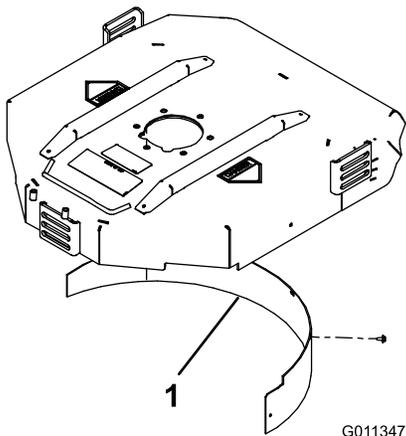

Figure 7
- Install the mulching baffle in the rear opening and secure it with 5 flange head bolts (Figure 7).